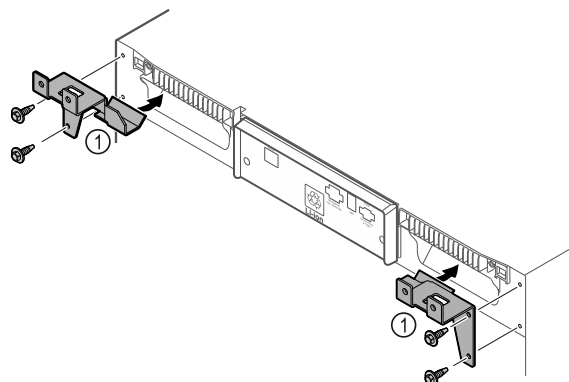

Fig. 8
- Mount retaining parts Fig. 8 (1) on the appliance using the screws supplied.